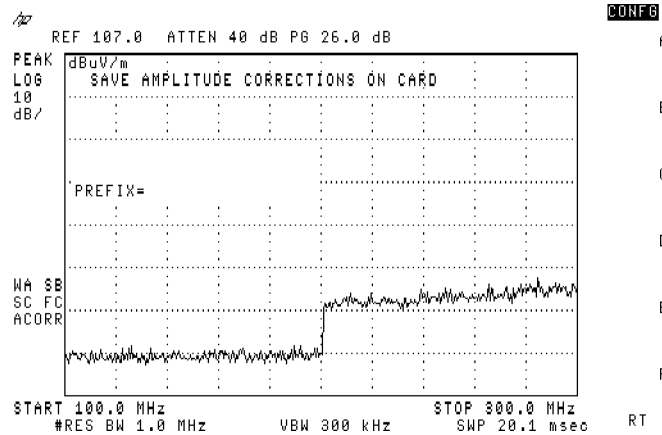

Figure 3-96. Changing the Letter of the First Prefix
6. Press **ABCDEF**. See Figure 3-96.